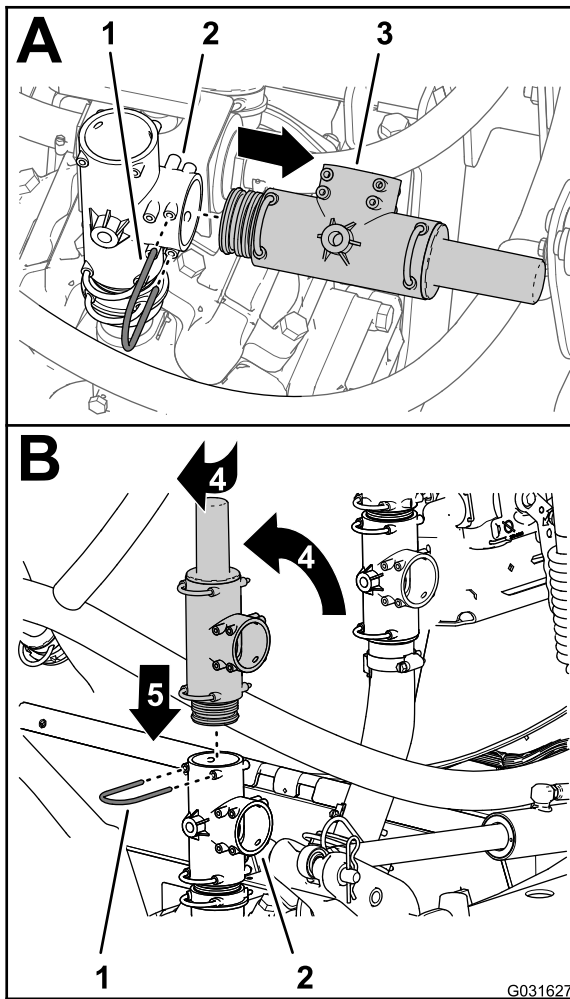

Figure 216
3. Remove the retainer that secures the pressure-relief valve to the T-fitting at the sprayer pump as remove the relief valve (Figure 216).
4. Rotate the pressure relief valve up as shown in Figure 216.
5. Insert the pressure-relief valve into the top of the T-fitting until the valve is fully seated (Figure 216).